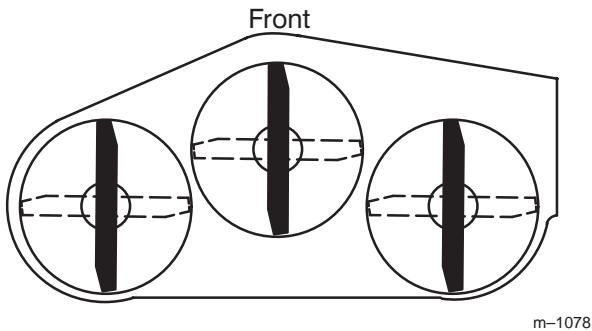

Figure 17
2. Rotate the blades until the ends face forward and backward (Fig. 17). Measure from a level surface to the cutting edge of the blades (Fig. 18). Note this dimension.